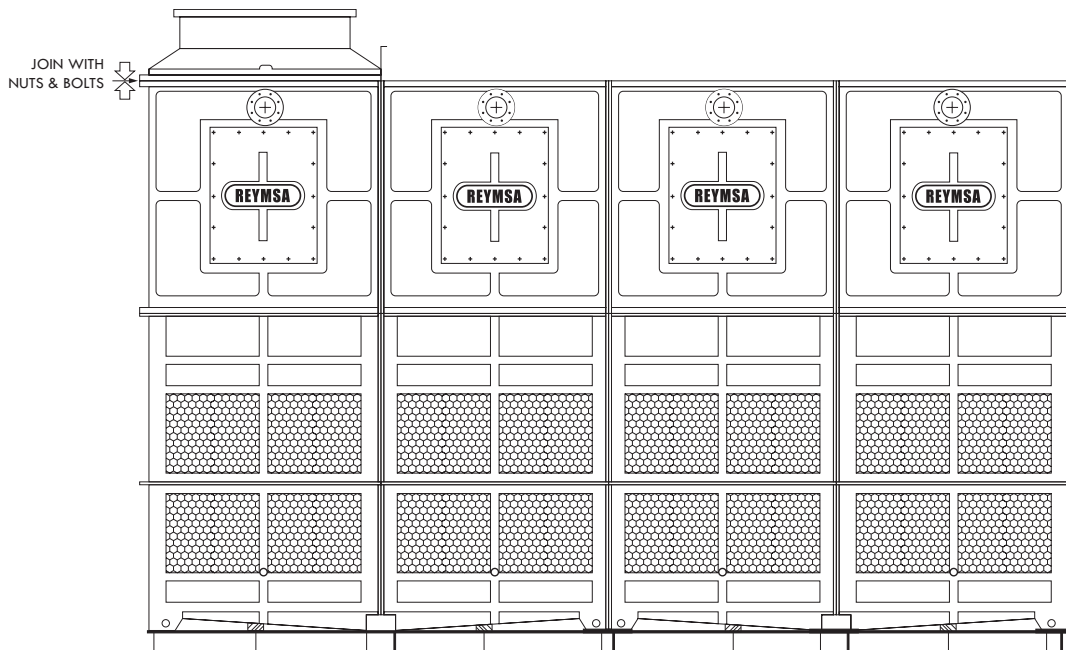

Figure A-30: Tower cover section 1 installation
L. Place tower Cover Section 1 on top of tower Body Section 1, making sure that the bolt holes on Tower Cover Section 1 are aligned with the perforations on Tower Body Section 1. (See Figure A-30).